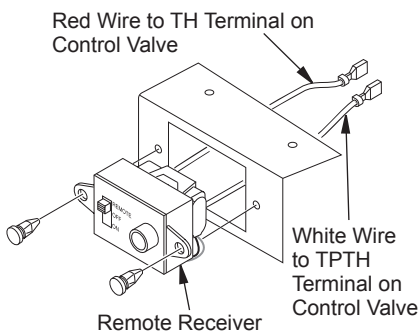

Figure 21 - Installing Remote Receiver
5. Connect wires from remote receiver to control valve as shown in Figure 21.
6. Install remote receiver unit onto remote bracket using screws provided (see Figure 21).